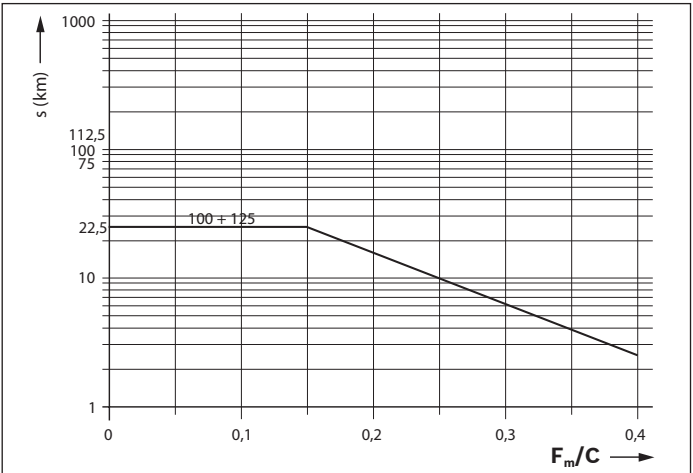

Fig. 13
- ▶ Apply the minimum quantity according to table 12 at the lube connection until the relubrication interval (figure 13) has been reached.
- ▶ Apply the minimum quantity according to table 12 for each lube connection until the relubrication interval (figure 13) has been reached.
The lubricating cycle time is then the result of dividing the relubrication interval (according to figure 13) by the determined number of pulses (see dimensioning example).